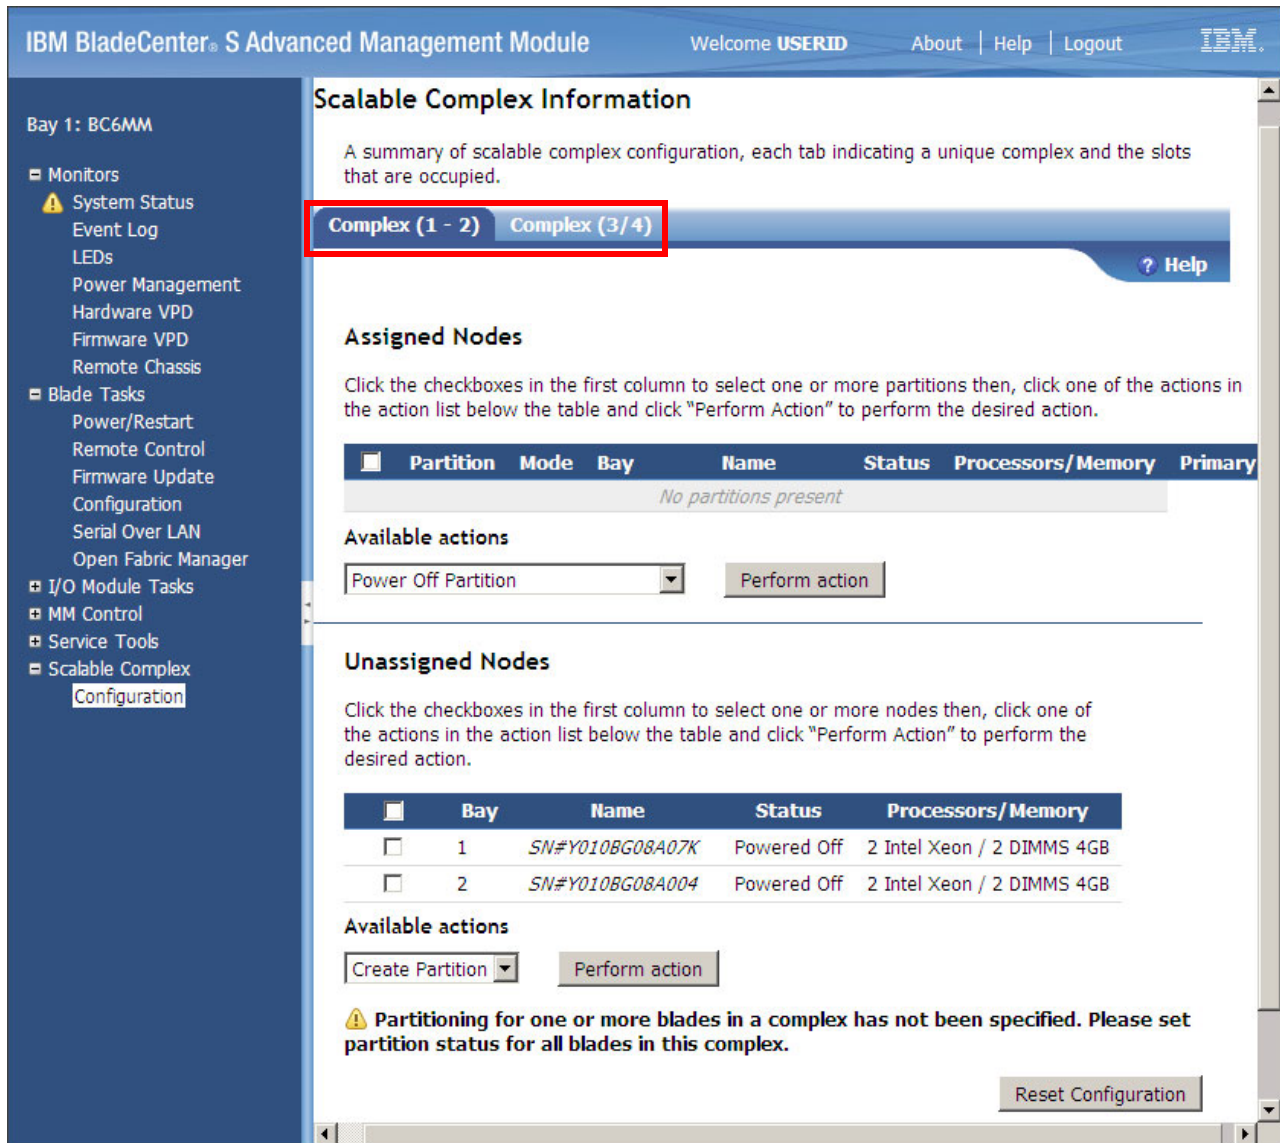

Figure 8-36 Scalable complex configuration panel
2. Navigate to **Scalable Complex** → **Configuration**. The scalable systems and the slots that they occupy are shown as tabs, as shown in Figure 8-36 on page 403. For our example, we use the HX5s installed in blade bays 1 and 2 to create a partition.